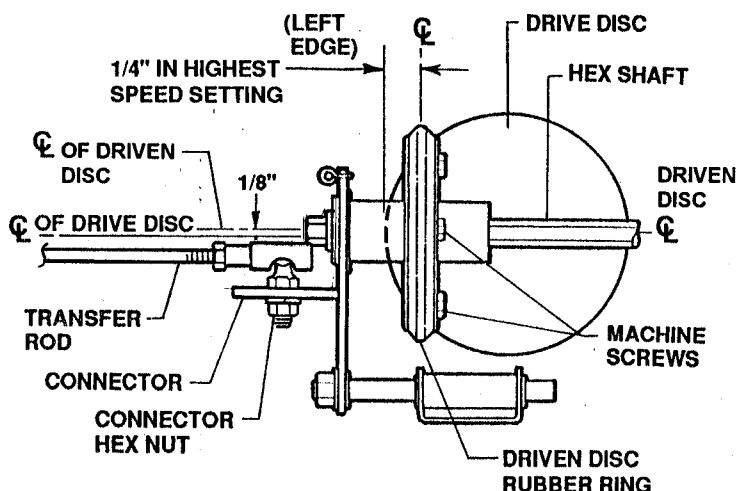

FIGURE 3.12
- Check the dimension from the centerline of the driven disc's rubber ring to the *left* edge of the drive disc. This dimension should be 1/4" in the highest speed setting. See Figure 3.12.
- To test the tracking adjustment, disconnect the transfer rod (Figures 3.12 & 3.13) and start the engine. If the rubber ring tracks in place approximately halfway between the center and left edge of the drive disc, the adjustment is correct.